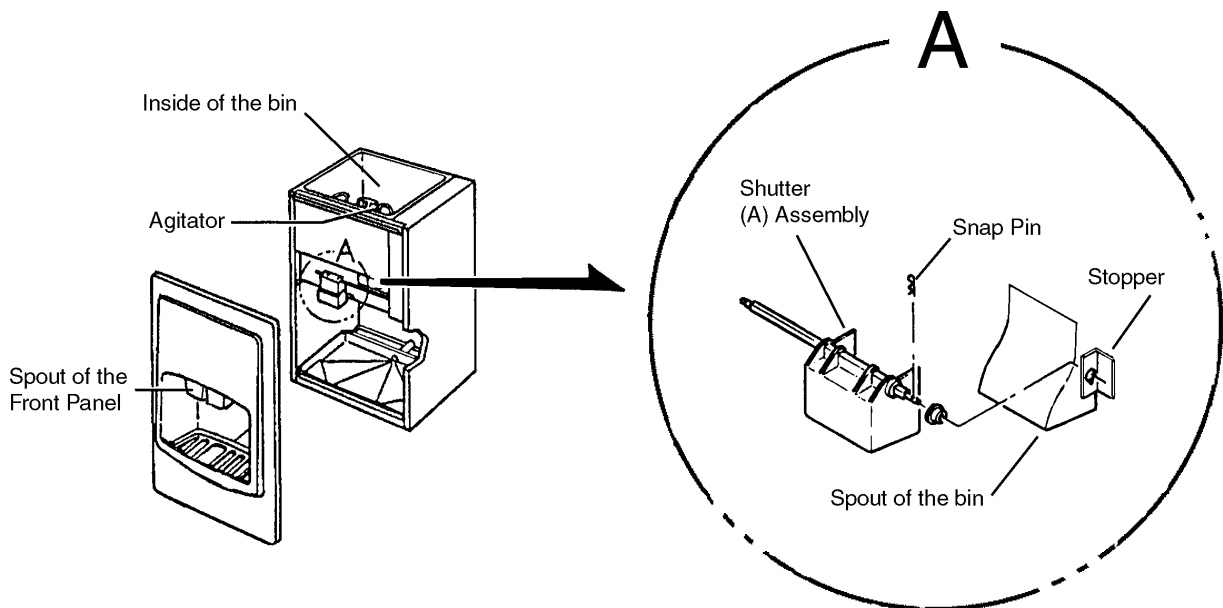

Fig. 6
[a] CLEANING PROCEDURE - See Fig. 6 on following page
- 6) Scrub the Shutter Assembly and the Spout using the cleaning solution made in step 5). See Fig. 6 on the following page.
- b) With snap pin removed, removal of Shutter Assembly (A) can now be accomplished.